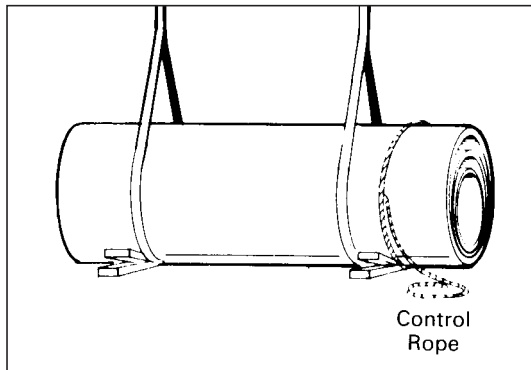

Figure 2.6
1. Always lift the nested bundle using at least two pliable straps (Figure 2.6). Limitations, if any, for spacing between straps and lifting locations will be specified for each project. Insure that the lifting slings have sufficient capacity for the bundle weight. This may be calculated from the approximate pipe weights given in Appendix A.